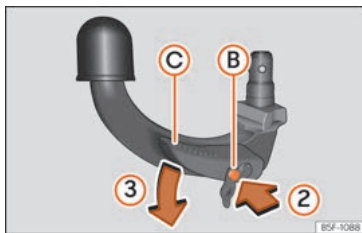

Fig. 293 Step 2.
- Press the release bolt (B) in the direction of arrow ②, and at the same time press lever (C) in the direction of arrow ③ as far as it will go » Fig. 293.